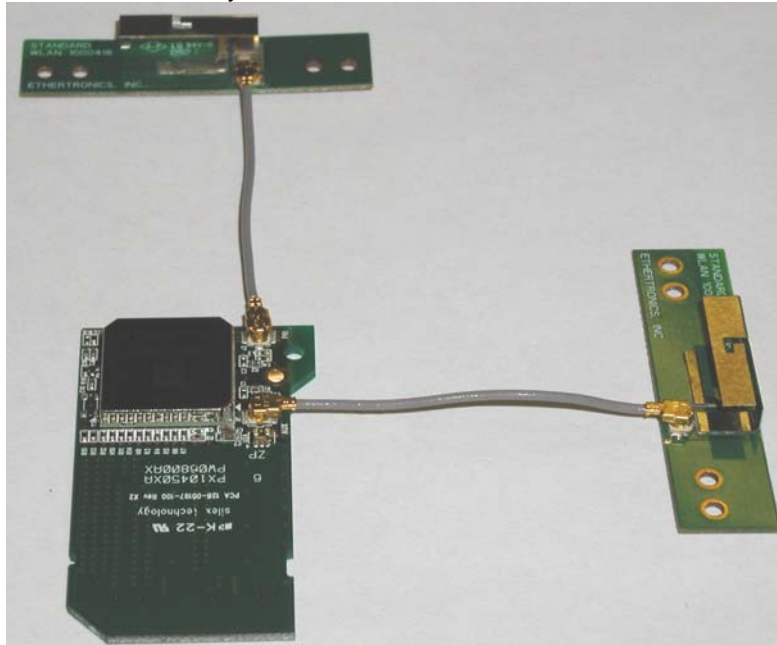

Figure 2. Connecting the Antenna(s) and cable(s) to the SX-SDCAG
2. Connect one end of the antenna cable to the main antenna connector on the SX-SDCAG (see figure 2). If you are using a diversity antenna configuration, connect one end of the second antenna cable to the secondary antenna on the SX-SDCAG.